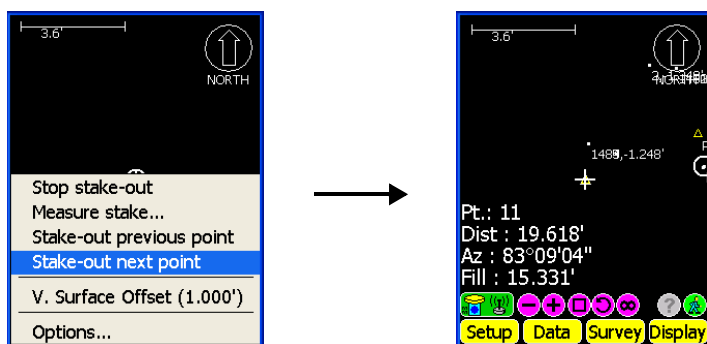

Figure 7-10. Stake-out Next Point
6. Press **Next** to return to the main screen to measure the next point on the list (Figure 7-10 on page 7-8).
7. Press **Survey ► Stake-out ► Stake-out next point** (Figure 7-10) or **Survey ► Stake-out ► Stake-out previous point**. On the main screen, the next point/previous point information from the points list displays.